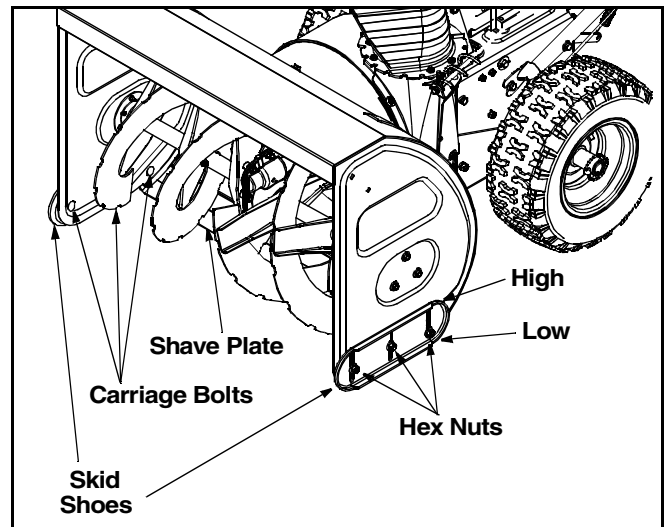

Figure 12
For close snow removal, as when using on a smooth concrete or asphalt driveway, place the skid shoes in the low position. Use the middle or high position when the area to be cleared is uneven. When operating on gravel, always put skid shoes in the high position. See Figure 12.
- Remove the six carriage bolts (three per side), bell washers and hex nuts which attach skid shoes to the snow thrower on either side. See Figure 12.
- Reassemble new skid shoes with the hardware removed earlier (cupped side of bell washer against the skid shoes). Make certain the skid shoes are adjusted to be level. Refer to Figure 12.